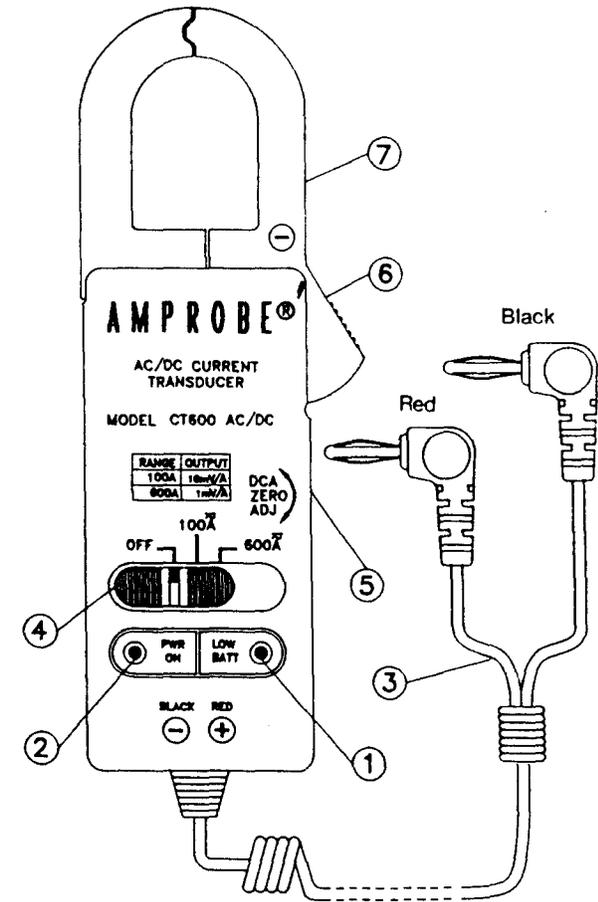

Fig. 1
Replace battery when red LED "Low Batt" turns on. (See fig. 1) Use a MN1604 9V alkaline battery.
- 3) Turn on DVM and move slide switch on CT to the desired range. Zero output of transducer by turning zero adjust knob located on side of instrument. (See fig. 1)